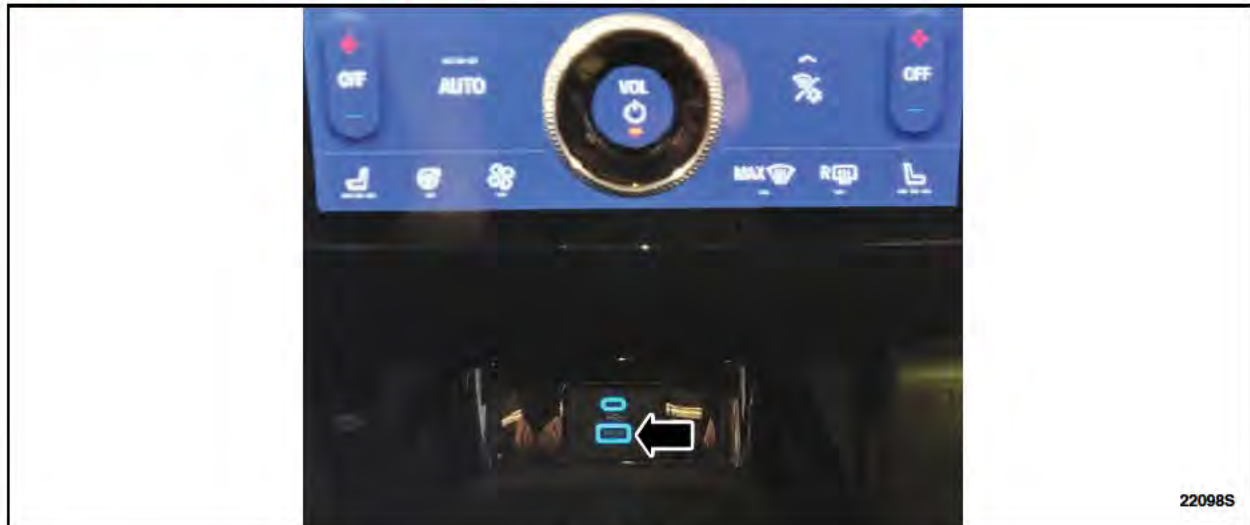

FIGURE 15
15. When prompted by the diagnostic scan tool, safely remove/eject the USB flash drive from the diagnostic scan tool and connect it to the USB hub in the vehicle to install the software into the GWM. See Figure 15.